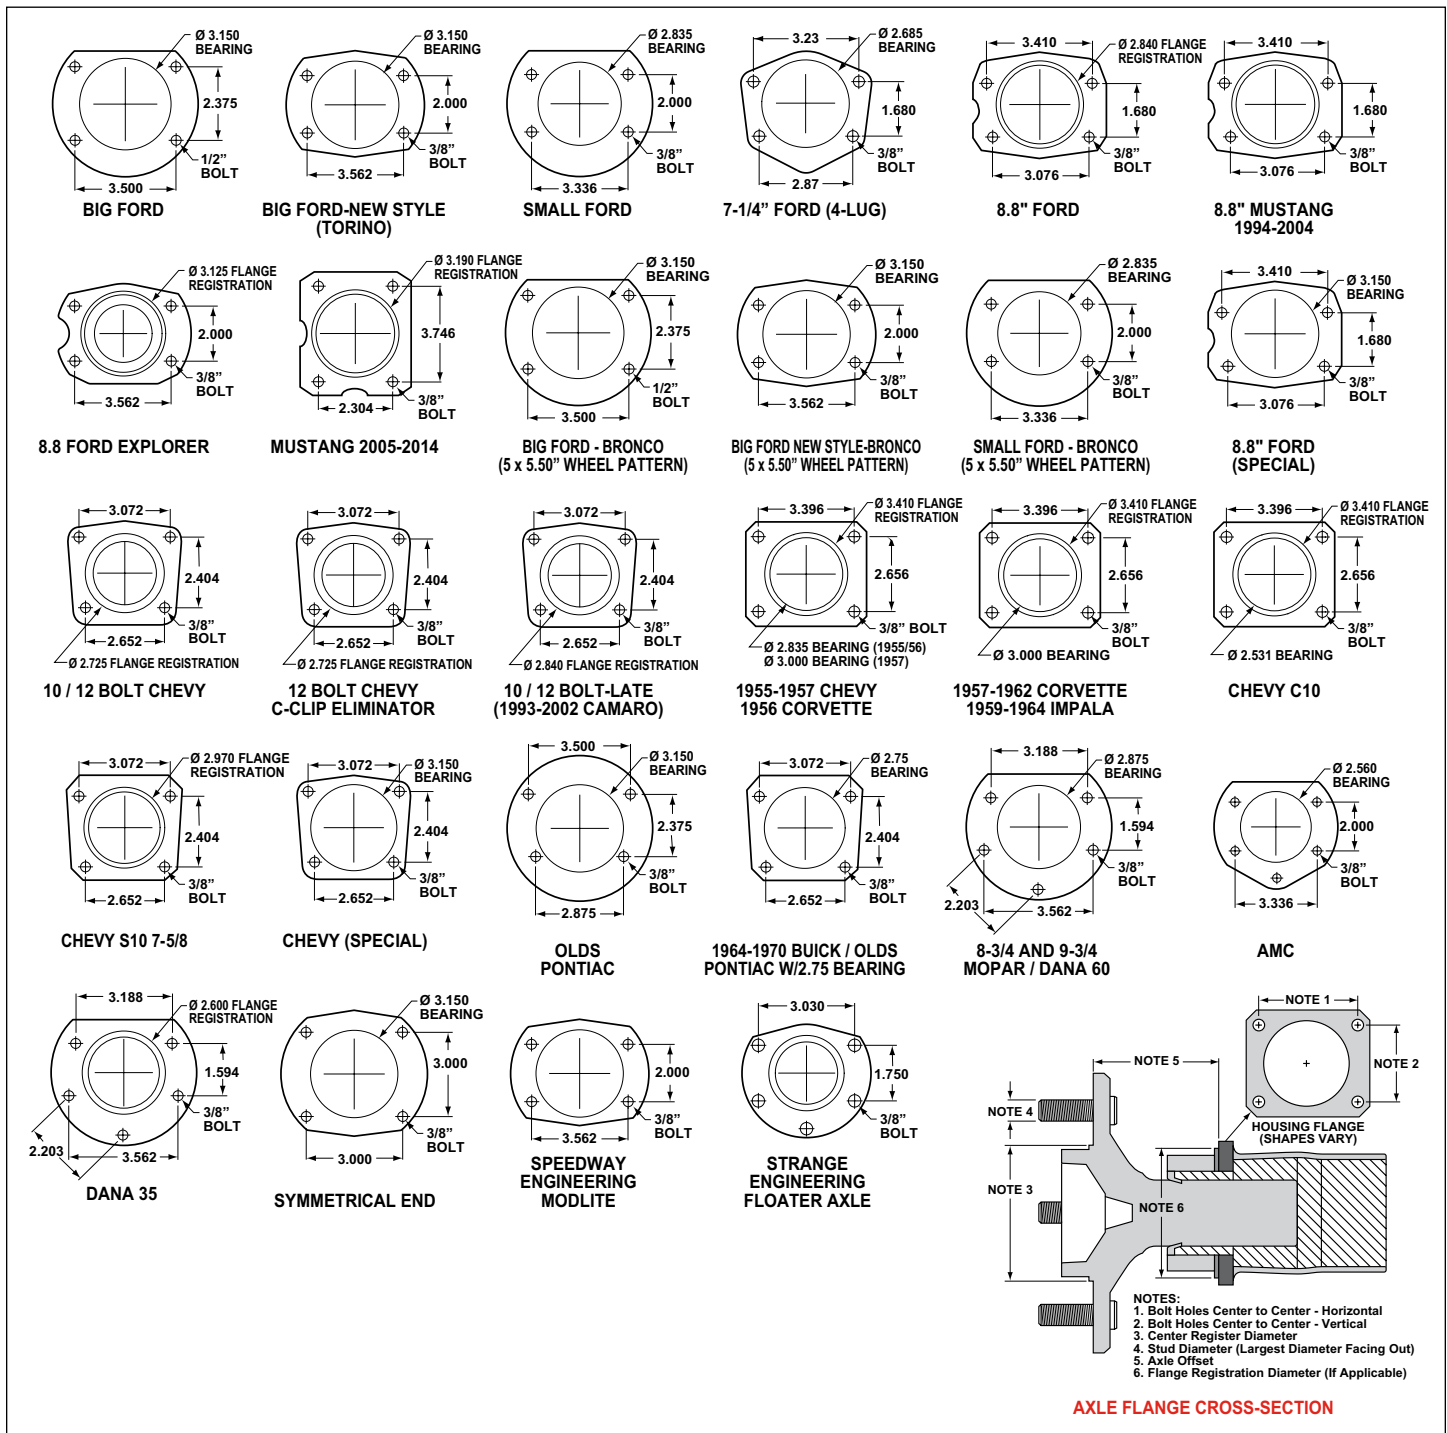

Figure 5. Rear Housing Flange Chart and Axle Flange / Offset Cross-Section
•Make sure this is the correct kit to fit the axle housing flange, not necessarily the rear end make. Many times aftermarket manufacturers put a different make of axle housing flange on the stock rear end housing (Figure 5). Example; Big Ford rear ends with Olds-Pontiac flanges, therefore, an Olds-Pontiac rear disc brake kit would be the correct kit to order. Also, shock clearance may be a problem. They may have to be modified and/or relocated to clear the Wilwood kit after final assembly.
- Axle housing flange registration diameter, Figure 5.
- Dimension from wheel side of axle flange to wheel side of axle housing flange (see Figure 5, Note 5, lower right hand corner). This dimension is critical to ensure proper alignment of the rotor to the caliper, and should match offset given in the kit description.